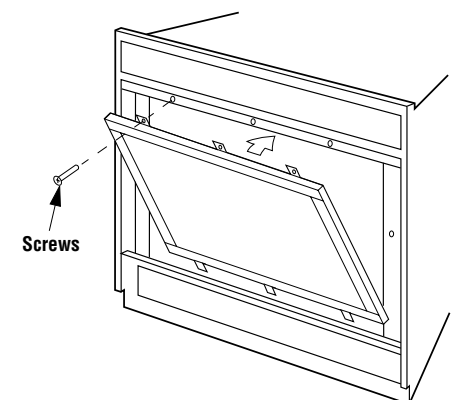

Figure 19
Step 15. Installing the Hood Assembly – Attach the hood assembly over the firebox opening with three (3) screws.
Step 16. Installing the Screen Assembly – Position the screen assembly in front of the firebox opening, with the joint in the gasket down (Figure 19). Locate the three (3) tabs at the bottom edge of the frame into the three (3) brackets at the base of the fireplace front opening. Lean the frame back towards the fireplace. Install the three (3) $\frac{1}{4}$ "-20 x 1" Phillips pan head screws removed previously and tighten to secure.